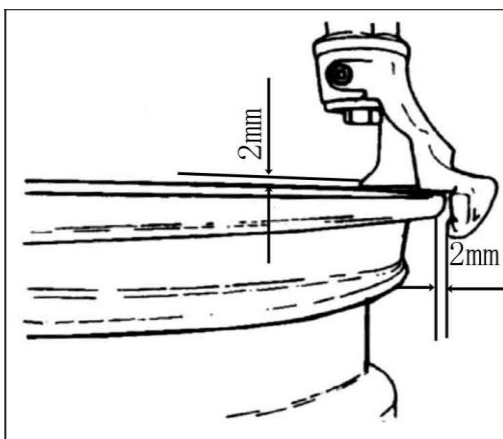

FIG 19
4.1.3 Position the hexangular shaft (FIG 2-3) to the working position to make the demount tool close to the rim of the wheel. And use the hand wheel (FIG 7-2) to push against the rocker arm and then use the lock handle (FIG 2-12) to lock. The demount tool will automatically move a little of gap (FIG19).